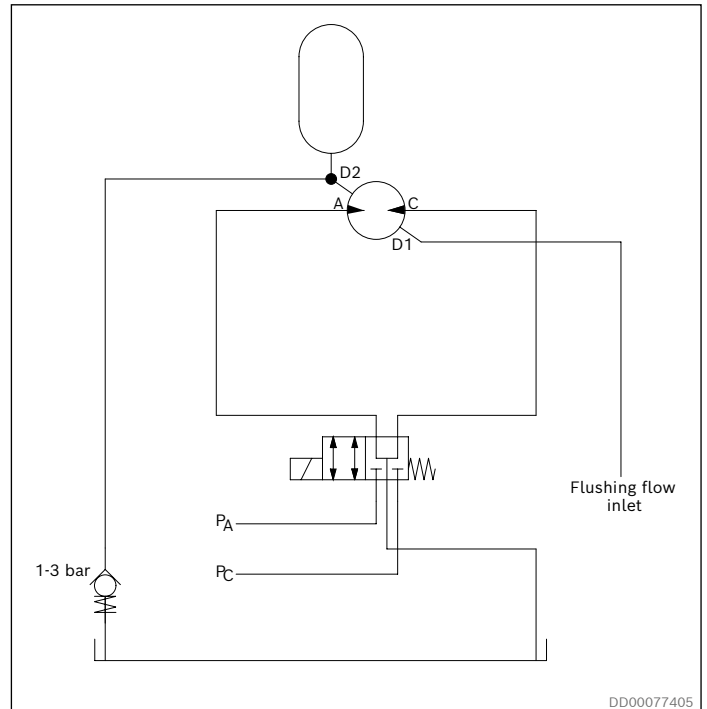
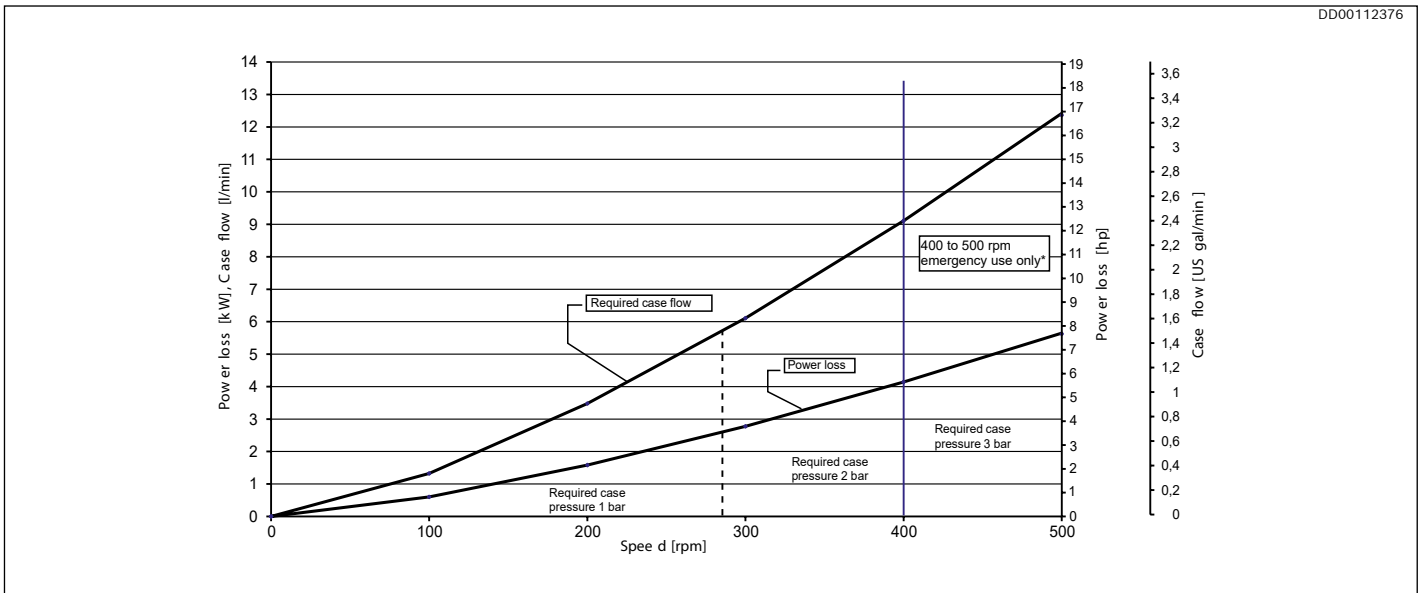
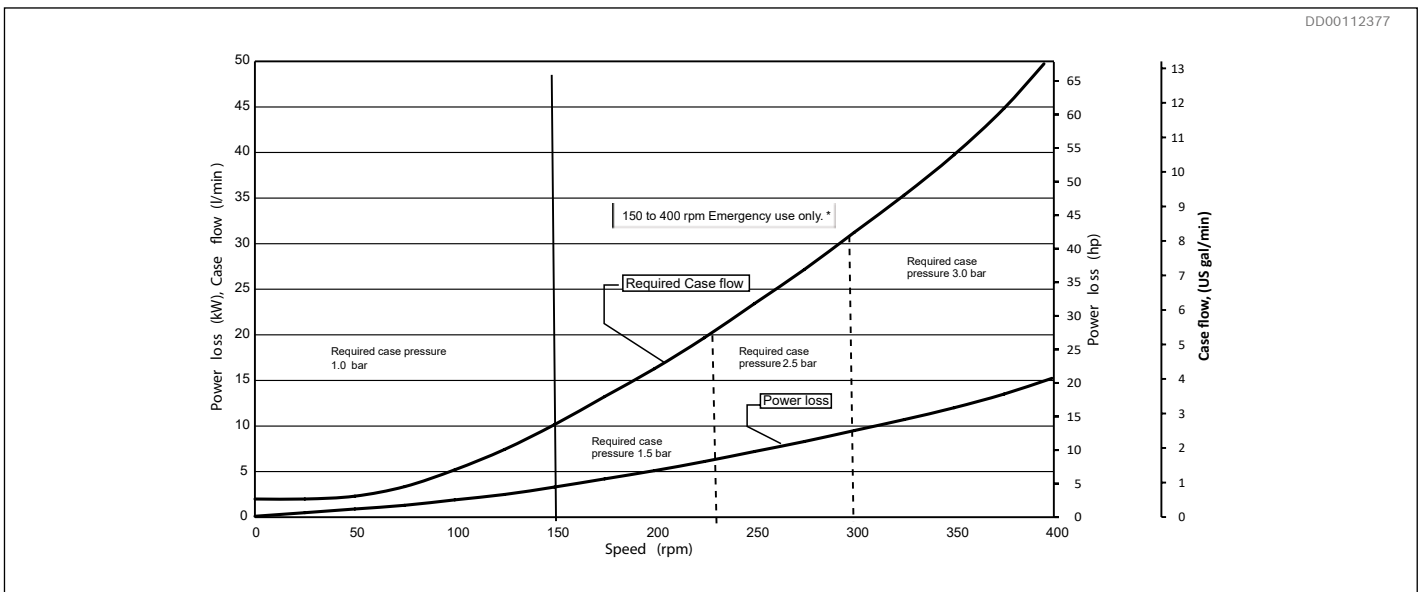

Fig. 34: Schematic principle freewheeling.
Fig. 35: Power loss freewheeling CBp 140, oil viscosity 40 cSt (187 SSU)
Fig. 36: Power loss freewheeling CBp 280 to CBp 840, oil viscosity 40 cSt (187 SSU)
The basic function of the freewheeling is to have the motor housing (via drain ports D1 to D4) lightly pressurized (see Fig. 35 and Fig. 36) while main ports A and C are without restriction drained directly to the fluid reservoir. See Fig. 34. The case pressure introduced in the normal drain connection will then act on the outer surface of each piston assembly pressing them towards the motor centre.
3. An adequate pressure introduced into the drain ports of the motor. See Fig. 35 and Fig. 36 (required case pressure).
- The motor case must be pressurized all the time when the motor is in freewheeling mode, see *Fig. 35 and Fig. 36*.
- The motor case must be flushed all the time when the motor is in freewheeling mode, see *Fig. 35 and Fig. 36*.
An accumulator can be added into the circuit to shorten the time to retract all the pistons completely, see *Fig. 34*.
An accumulator can also be added into the circuit to reduce the pressure spikes in the motor case when the pistons are extracted, see *Fig. 34*.
Even if the freewheeling operation takes place with lowest possible friction in the main bearings and with no flow losses in the main ports of the motor, a powerloss must take place in the motor case due to viscous friction between moving and fixed parts. This powerloss is expressed in Fig. 35 and Fig. 36.
Case flushing is required to prevent overheating, see diagram Fig. 35 and Fig. 36
In order to accomplish proper freewheeling, a case pressure according to Fig. 35 and Fig. 36 has to be maintained.